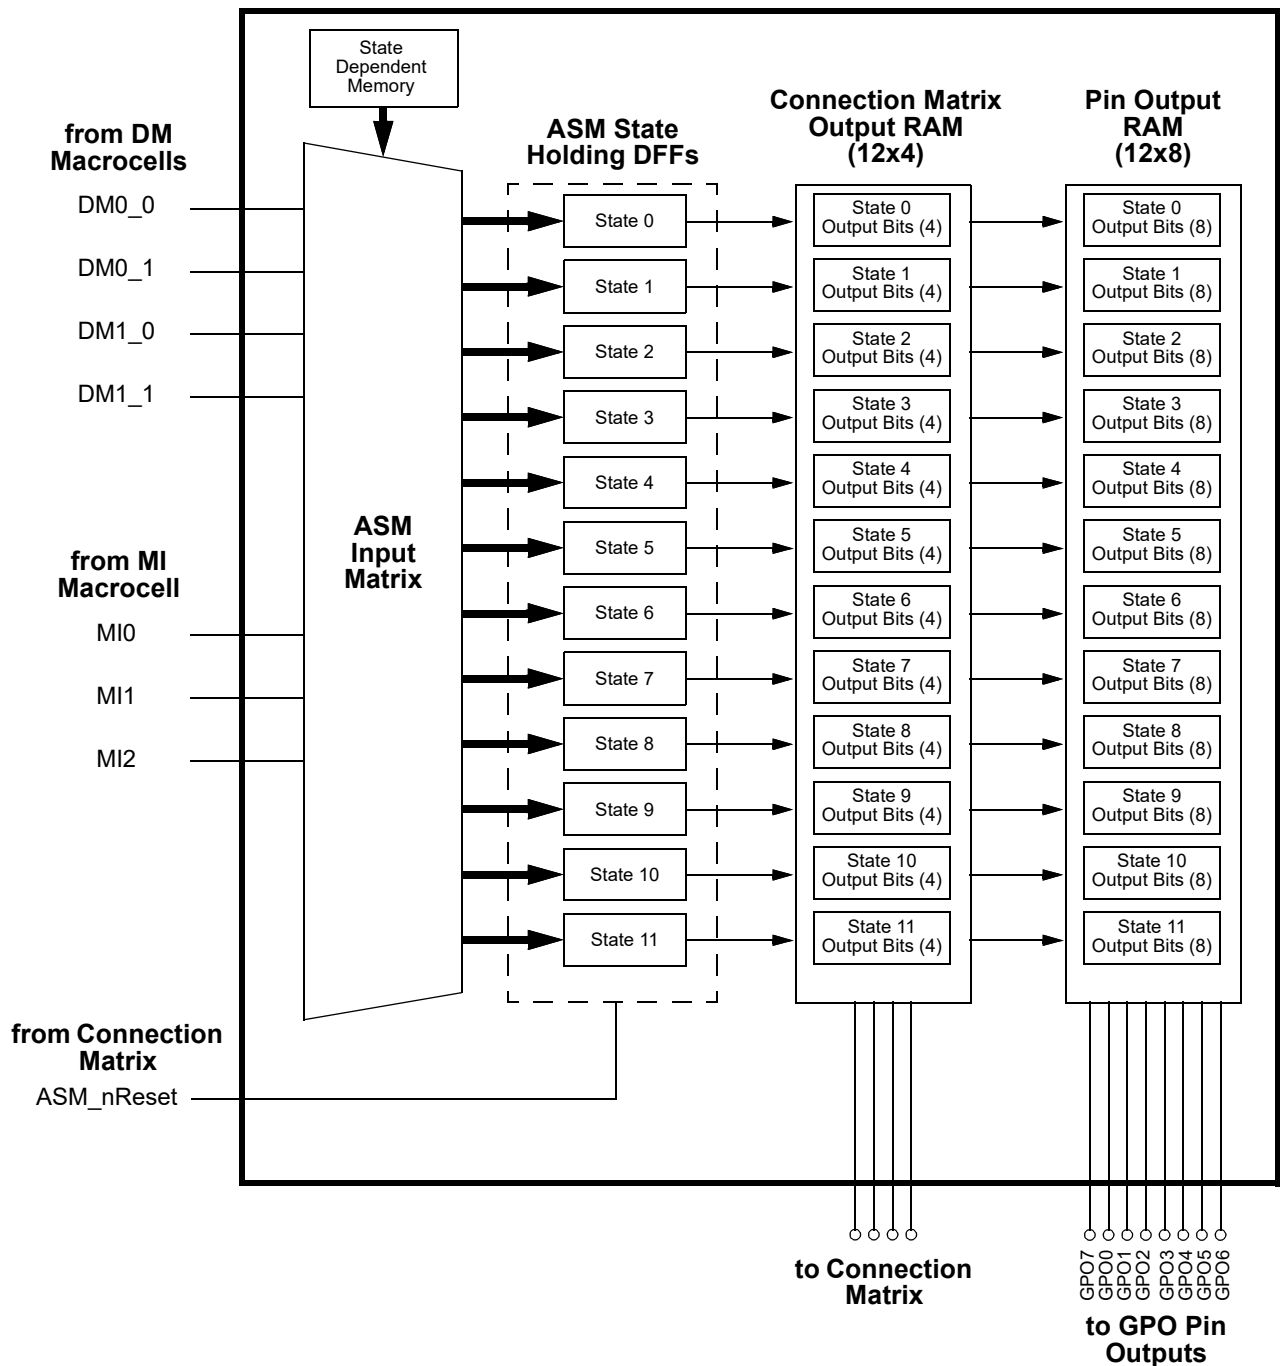

Figure 116: 12 State ASM Macrocell
The ASM macrocell has a total of 8 input signal lines, as shown in Figure 116, which come from a combination of three Matrix Interface (MI) macrocell outputs and DM macrocell outputs. Of these 8 inputs, 3 are user selectable inputs coming from the three Matrix Interface (MI) macrocells (one per macrocell) to the ASM macrocell. There are also 4 inputs that come from the DMx\_x macrocells (one per macrocell). There is 1 ASM\_nReset input that is for driving a state transition in the ASM macrocell to a user defined Initial/Reset state.
The GPAK Designer development tools support user designs for the ASM macrocell at both the physical level and logic level. Figure 116 is a representation of the user design at the logical level, and Figure 116 shows the physical resources inside the various macrocells in the ASM Subsystem. To best utilize this subsystem, the user must develop a logical representation of their desired state machine, as well as a physical mapping of the input and outputs required for the desired functionality.
The ASM macrocell has a total of 8 input signal lines, as shown in Figure 116, which come from a combination of Connection Matrix outputs and DM macrocell outputs.